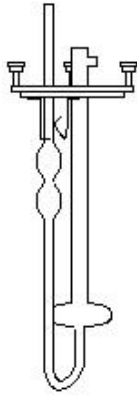

Figure 5
(7) is mounted viscometer: with viscometer immersion of samples in advance ready thermostatic water bath, and with the clip will viscometer fixed on the bracket, in a fixed position must the capillary viscometer is the expansion part 2 immersed in half (Figure 5). Observation of the viscometer, in a vertical state.